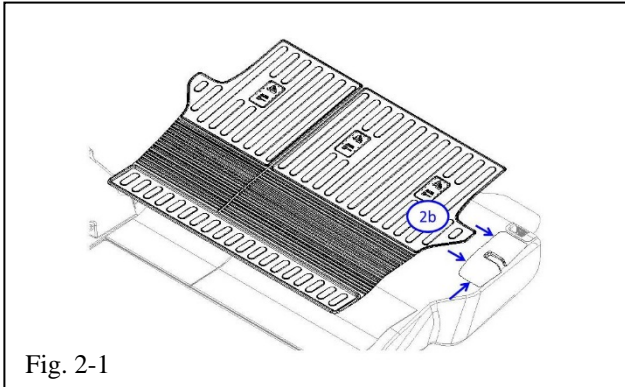

Fig. 2-1
- (b) Use the seat latch cover opening to perform initial alignment of the seat back protectors (Fig. 2-1).